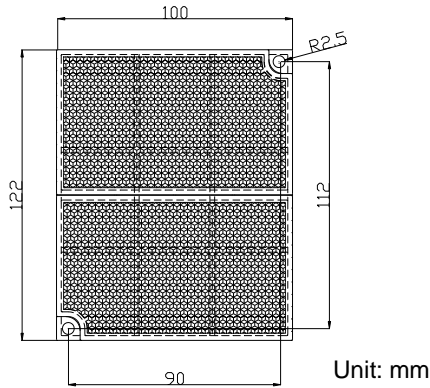

Fig. 11a
- 3) Mounting the Reflector:** The reflector is mounted opposite the detector but in line with it. When the distance between the detector and the reflector is more than 8m (less than or equal to 40m), one reflector is enough. When the distance is more than 40m (less or equal to 100m), four reflectors are needed. Two $\varnothing 6$ plastic expansion bolts are needed to fix a single reflector. Mounting size is shown in Fig.11a. If four reflectors